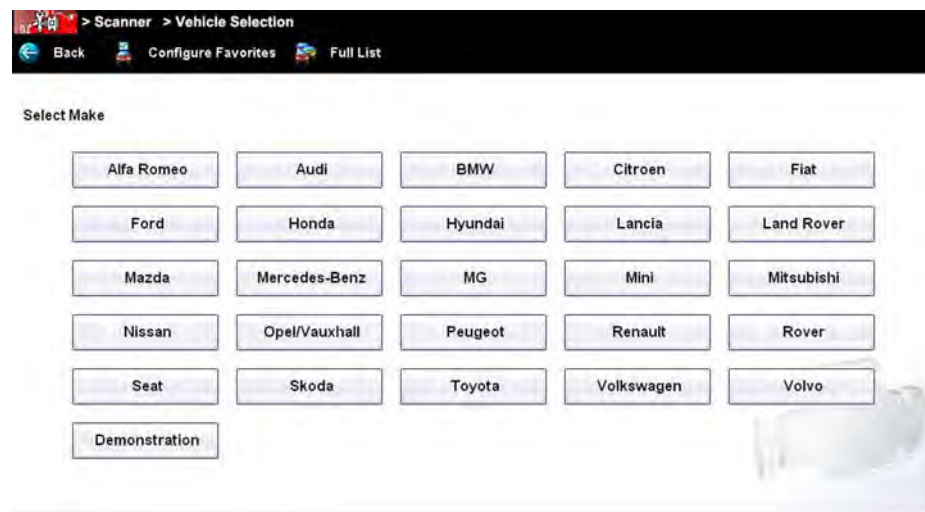

Figure 4-14 Sample manufacturer list
A list of manufacturers displays (Figure 4-14).
1. After the vehicle has been identified, a list of available systems for testing displays (Figure 4-14). Select a system to continue.